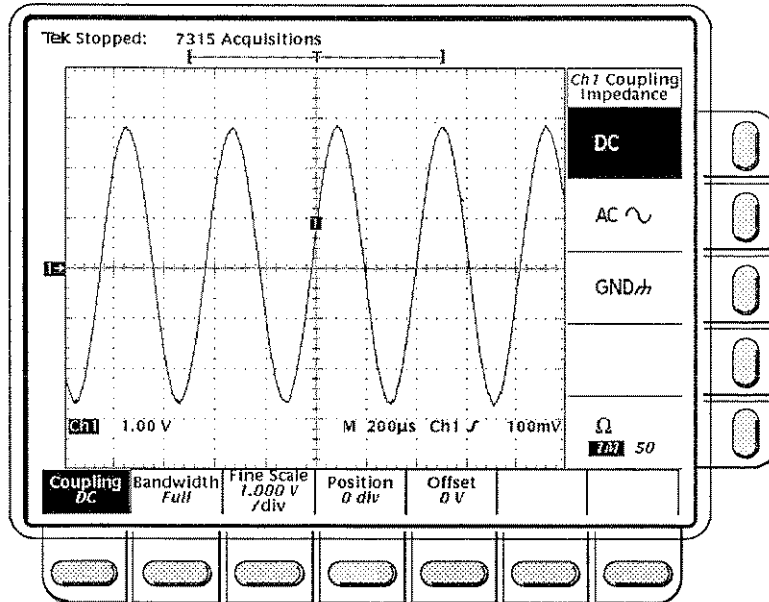

Figure 3-69: Vertical Channel Menu
- Step 3:** Press the **VERTICAL MENU** button to call up the appropriate vertical menu (Figure 3-69).